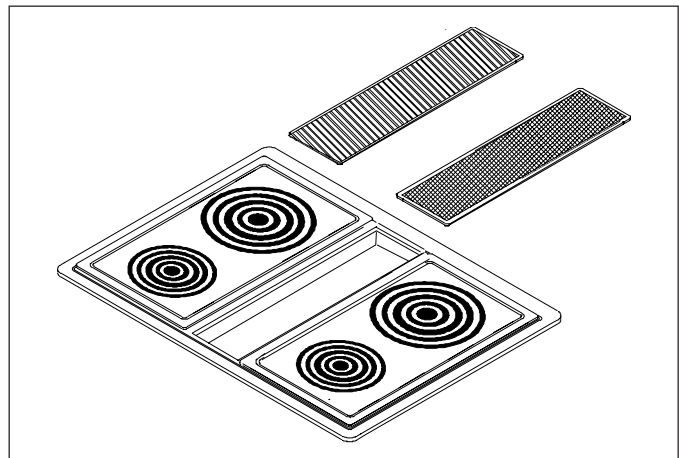

Figure 43
1. See Figure 43. Lift filter cover to remove vent filter.